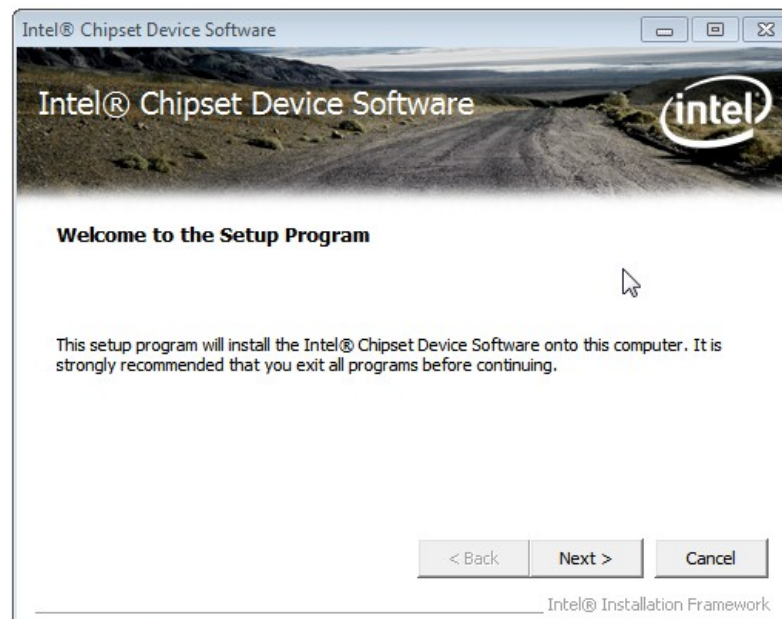

Figure 6-3: Chipset Driver Welcome Screen
Step 7: When the setup files are completely extracted, the **Welcome Screen** in **Figure 6-3** appears.